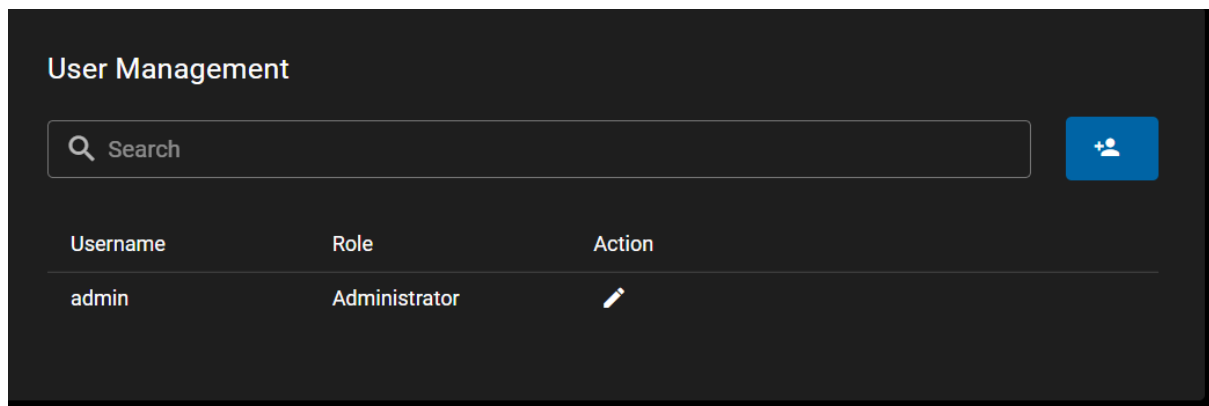

Figure 91. User Management Interface
2. Refer to Figure 91 for an overview of the interface layout.